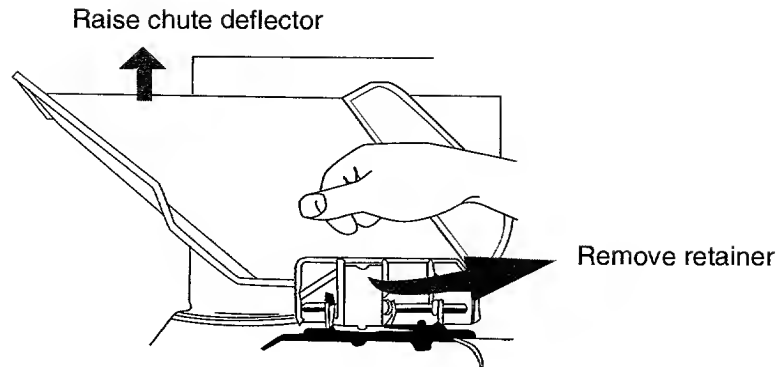

FIGURE 11
- Push the chute deflector up and towards the engine. Holding the deflector in this position, remove the retainer. See Figure 11.